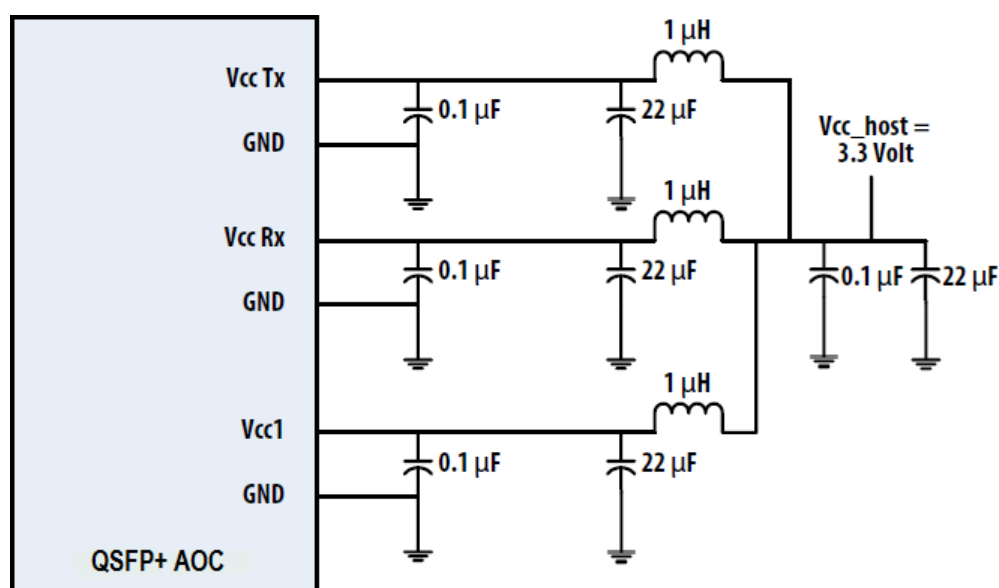

Figure 4. Recommended Power Supply Filter for QSFP28 Terminal
- VccRx, Vcc1 and VccTx are the receiving and transmission power suppliers and shall be applied concurrently. Recommended host board power supply filtering is shown in Figure 4 below. Vcc Rx, Vcc1 and VccTx may be internally connected within the QSFP28 transceiver module in any combination. The connector pins are each rated for a maximum current of1000mA.